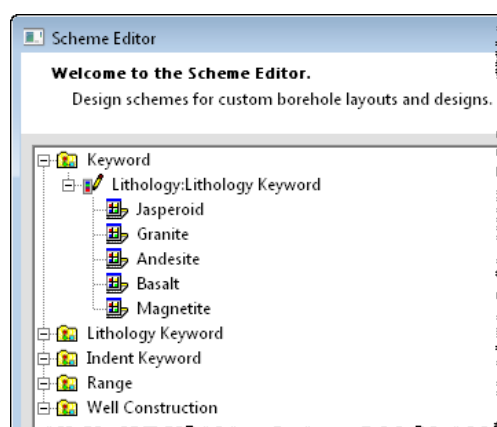

Figure 1.180 – Expand a scheme to view all scheme items. You can select each item to set its properties.
2. On the left side of the **Scheme Editor**, click the next to *Lithology: Lithology Keyword*. The five scheme items are displayed below the scheme name, fig. 1.180.